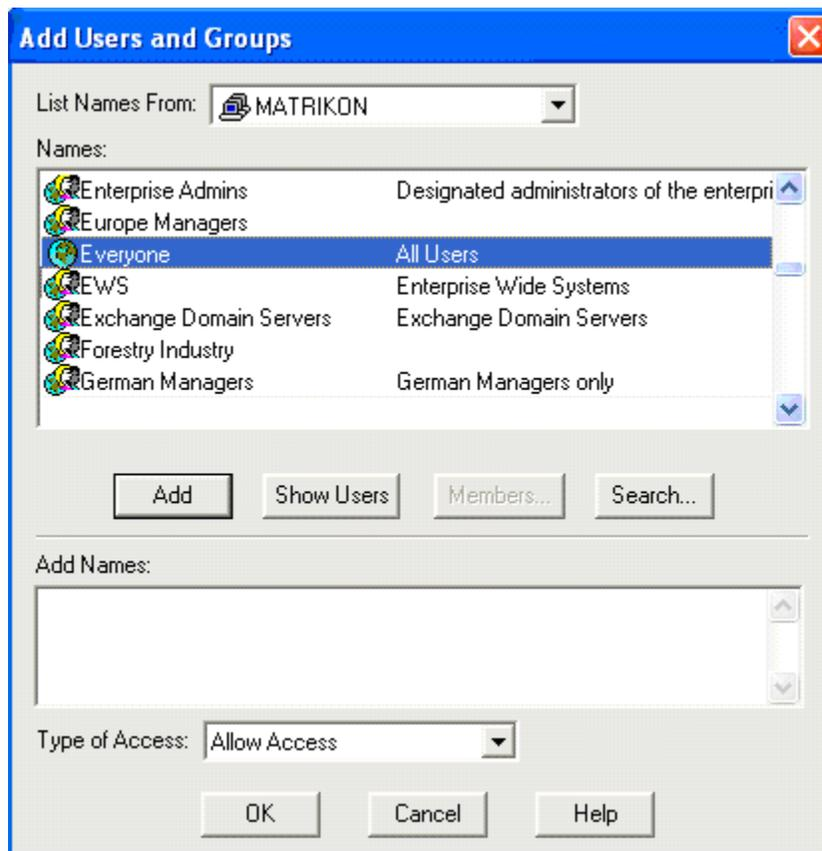

Figure 39 - Add Users and Groups Window
10. The **Add Users and Groups** window (Figure 39) appears.